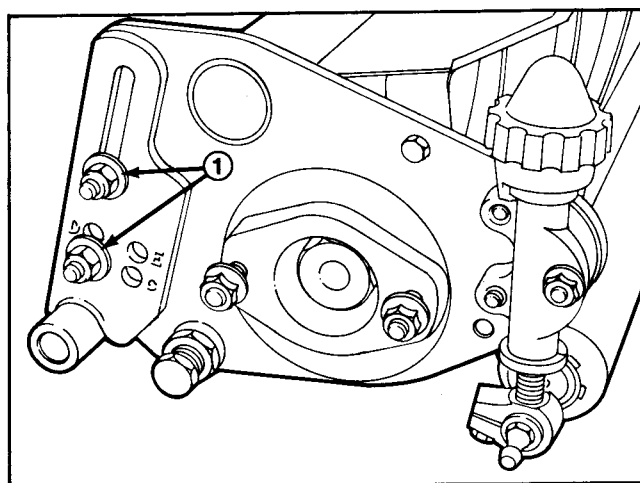

Figure 11
4. After putting bracket into correct height-of-cut hole position make sure right hand rear roller bracket capscrews are tightened securely (Fig. 11).